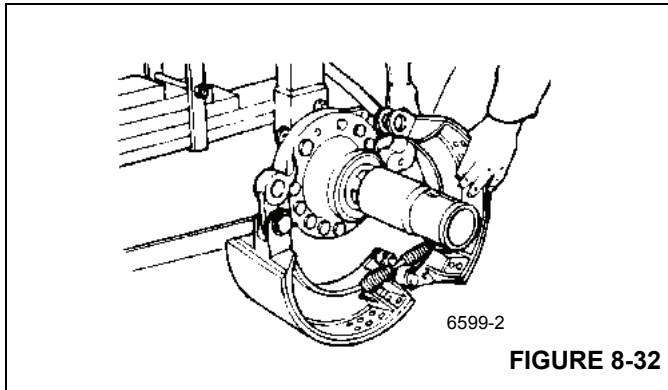

FIGURE 8-32
3. Rotate the top shoe to release the tension on the brake shoe return spring. Remove the shoe (Figure 8-32).